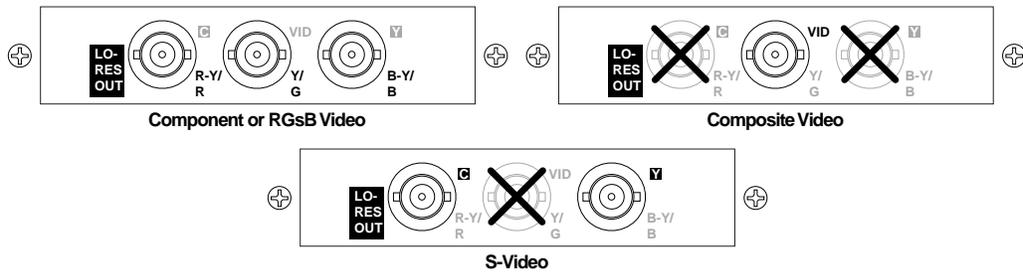

Figure 2-10 — Optional scan converter output board
- 9b) **Scan converter output connectors (optional)** — If the optional scan converter output board is installed, connect a low resolution video (RGB video, interlaced component video, S-video, or composite video) display to these female BNC connectors. These connectors output the program image only. Figure 2-10 shows how to connect the various video formats.